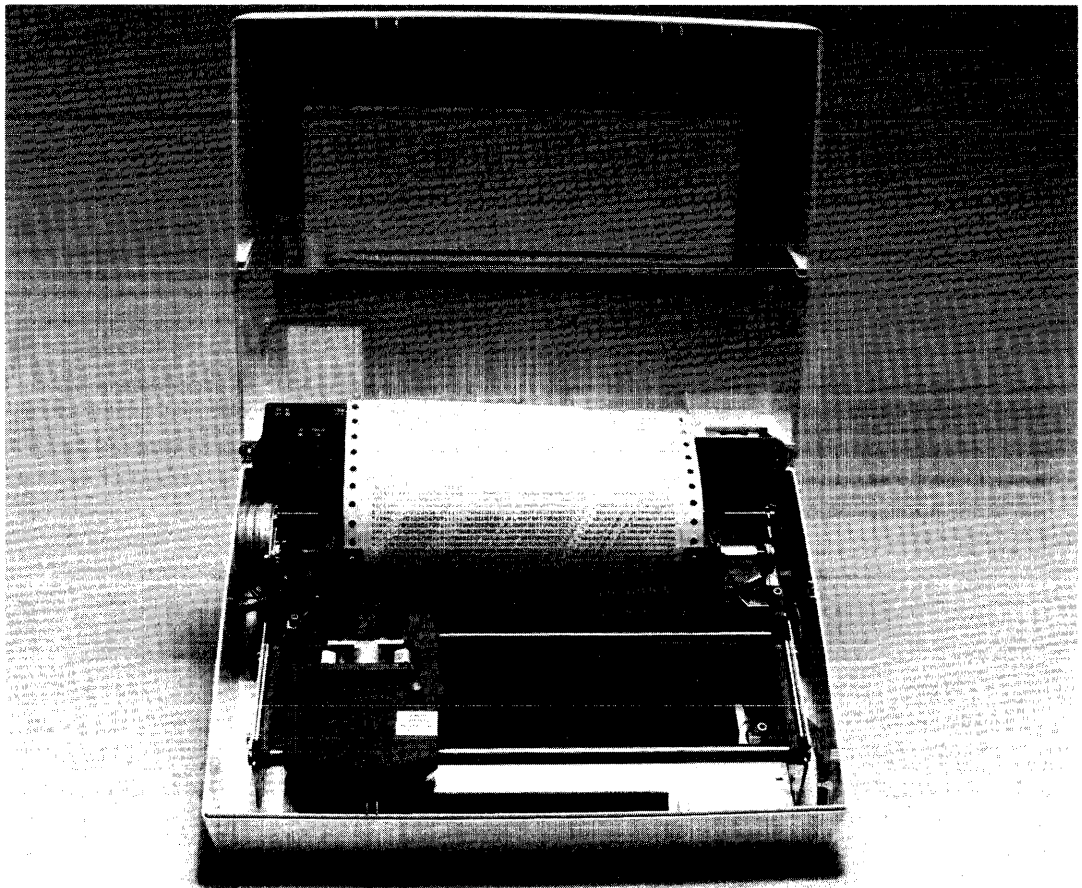

Figure 3-4. Internal Mechanics with Loaded Paper
5. Turn on the printer to allow the printhead to position itself to the left of the platen. This will happen automatically. Figure 3-4 shows the proper loading position for the printhead.
8. Close the printer cover while guiding the top of the paper through the opening in the printer cover. See Figure 3-4.